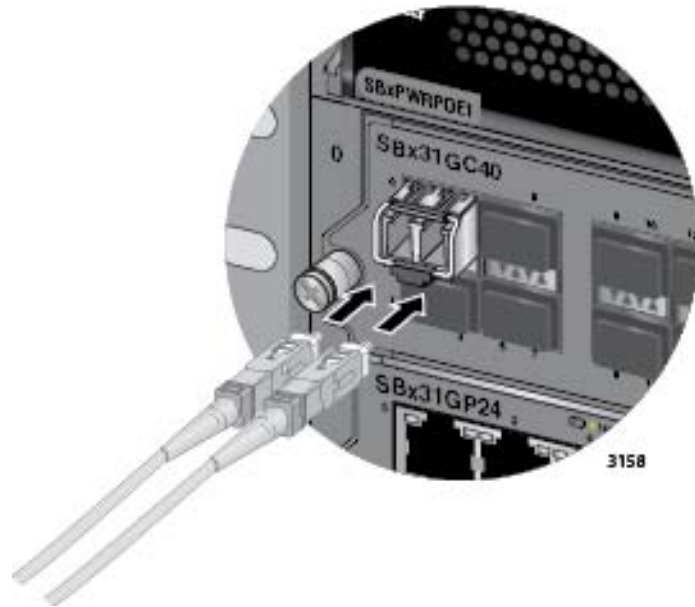

Figure 93. Attaching a Fiber Optic Cable
6. Connect the fiber optic cables to the port on the transceiver, as shown in Figure 93 on page 152. The connectors should snap into the ports. If you are connecting only one cable to a CSFP transceiver, you may connect it to either port.